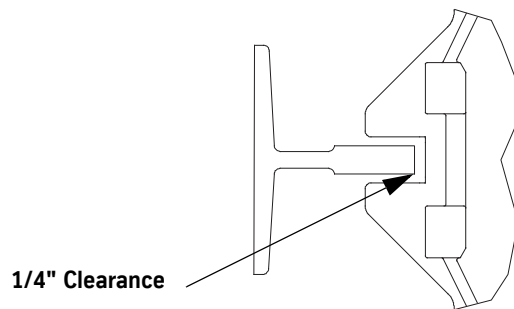

Figure 3 - Rail to Guide Throat Clearance
- The distance from the face of the rail to the back of the slot should be approximately $\frac{1}{4}$ ". See Figure 3.